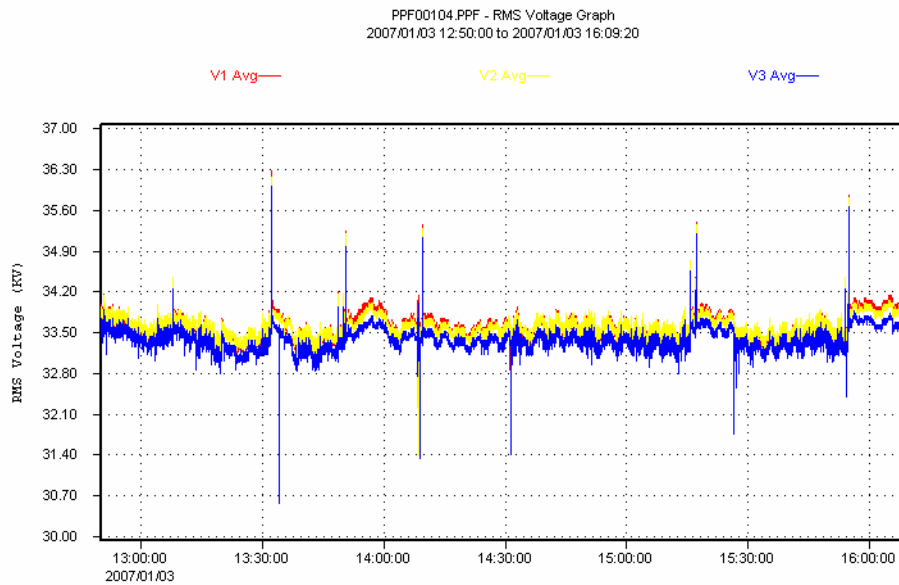

Fig.6.1. RMS Voltage wave forms from 12.50.00 Hrs to 16.09.20Hrs.
The measurements have been carried out on 3rd January 2007 for about three and half hours. The measured parameters such as RMS Voltage, Current, Maximum and Average Total Voltage and Current Harmonic Distortion (THD), frequency, Power (MW), Power factor, Apparent Power (MVA), Reactive Power (MVAR), Various individual Voltage & Current harmonics, Voltage & Current FFT, V & I Wave form, V & I Phasors, PST & PLT Flicker graphs over the measurement period are shown in Figure 6.1 to 6.17. The CT and PT ratios are as given in the table below.